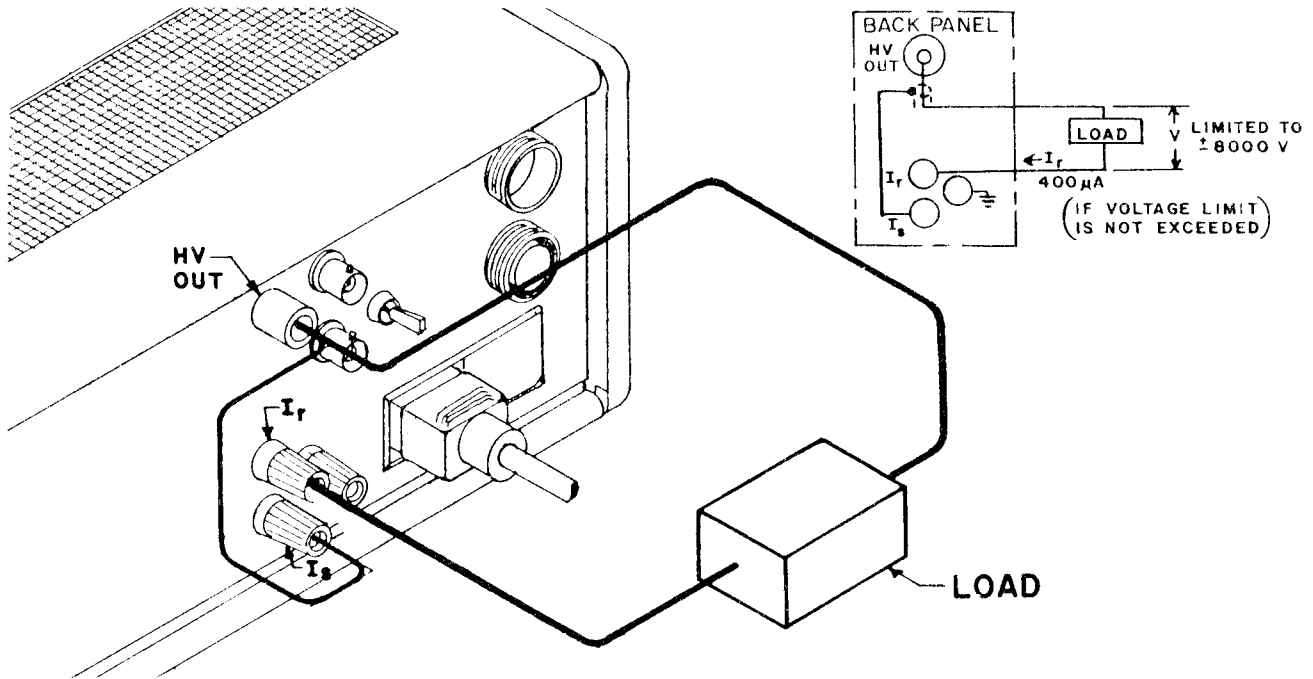

Figure 45. Sample Rear Panel Hook-up I, Regulated
b. At the rear panel, make the connections (see Figure 45):